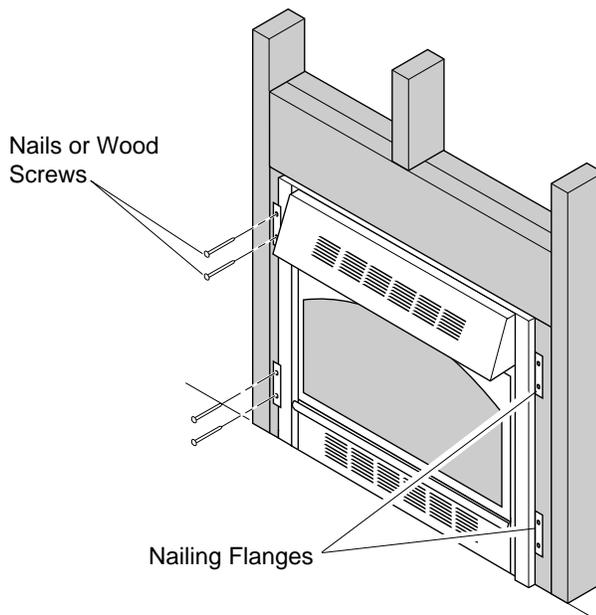

Figure 14 - Attaching Fireplace to Wall Studs
7. Attach fireplace to wall studs using nails or wood screws through holes in nailing flange (see Figure 14).